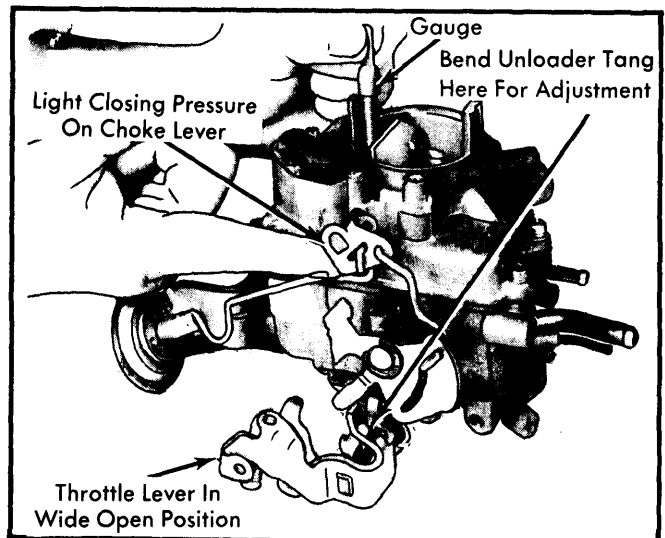

**Fig. 3 Adjusting Fast Idle Cam Position (Chrysler Corp. Model Carburetor Shown)**
1) Position fast idle speed screw on second step of fast idle cam against shoulder of highest step. Hold choke valve toward closed position with light finger pressure. See Fig. 3.